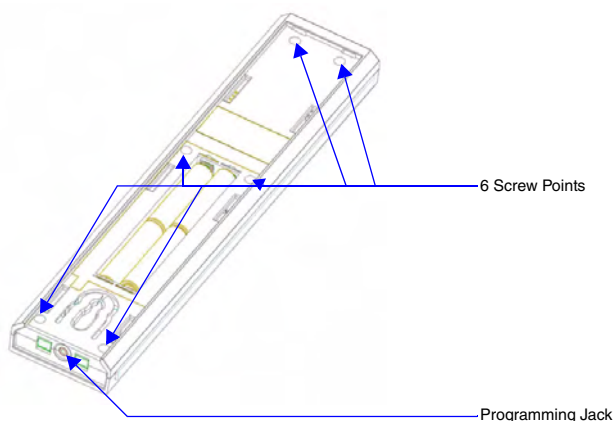

FIG. 2 Internal Mio R-2 Components
5. Unscrew the 6 screw points indicated in FIG. 2.